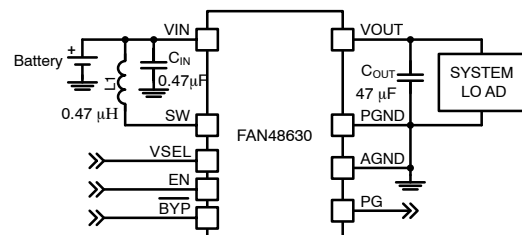

Figure 1. Typical Application
**Table 7. ELECTRICAL CHARACTERISTICS** Recommended operating conditions, unless otherwise noted, circuit per Figure 1,  $V_{IN} = 2.35\text{ V}$  to  $5.5\text{ V}$ ,  $T_A = -40^\circ\text{C}$  to  $85^\circ\text{C}$ . Typical values are given at  $V_{IN} = 3.0\text{ V}$  and  $T_A = 25^\circ\text{C}$ .
The following table is verified by design and verified while using the following external components: L = 0.47  $\mu$ H, DFE201612C-R47M (Toko), CIN = 4.7  $\mu$ F, 0603 (1608 metric), C1608X5R0J475K (TDK), COUT = 47  $\mu$ F, 0603 (1608 metric), CL10A476MQ8CZNE (Samsung). These parameters are not verified in production. Minimum and maximum values are at VIN = 2.5 V to 5.5 V, TA = -40°C to +85°C; circuit per Figure 1, unless otherwise noted. Typical values are at TA = 25°C, VIN = 3.0 V, VOUT = 3.6 V, VEN = 1.8 V.
Unless otherwise specified;  $V_{IN} = 3.0\text{ V}$ ,  $V_{OUT} = 3.6\text{ V}$ , and  $T_A = 25^\circ\text{C}$ ; circuit and components according to Figure 1.